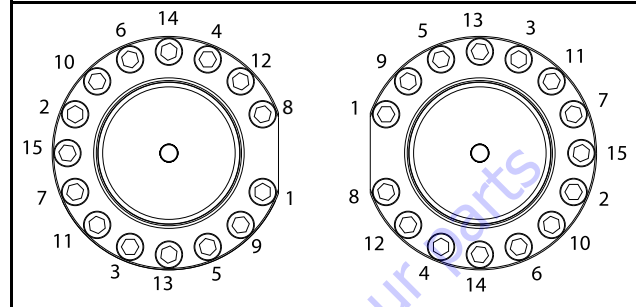

Figure 5-78. Capscrews Torque Sequence
- Apply JLG Threadlocker PN 0100011 to the socket head bolts and secure the cylinder head gland using the washer ring and capscrews. Torque capscrews refer Figure 5-66. and Figure 5-67. as per the torque sequence shown in Figure 5-78..